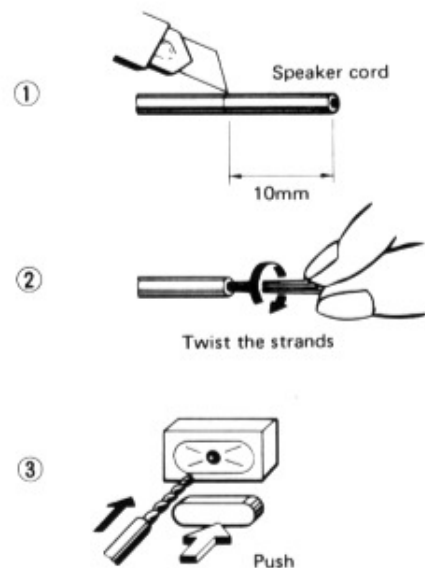

Fig. 2
### Processing and connecting the speaker cords (Fig. 2-① ~ ③)